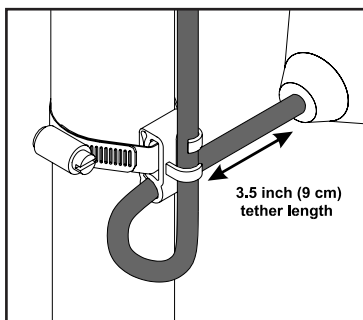

FIGURE 3 - Mounting clamp detail
4. For mounting clamp installation: place the cord into the clamp as shown in **Figure 3**. Locate the clamp at the desired activation level and secure the clamp to the discharge pipe as shown in **Figure 3**.